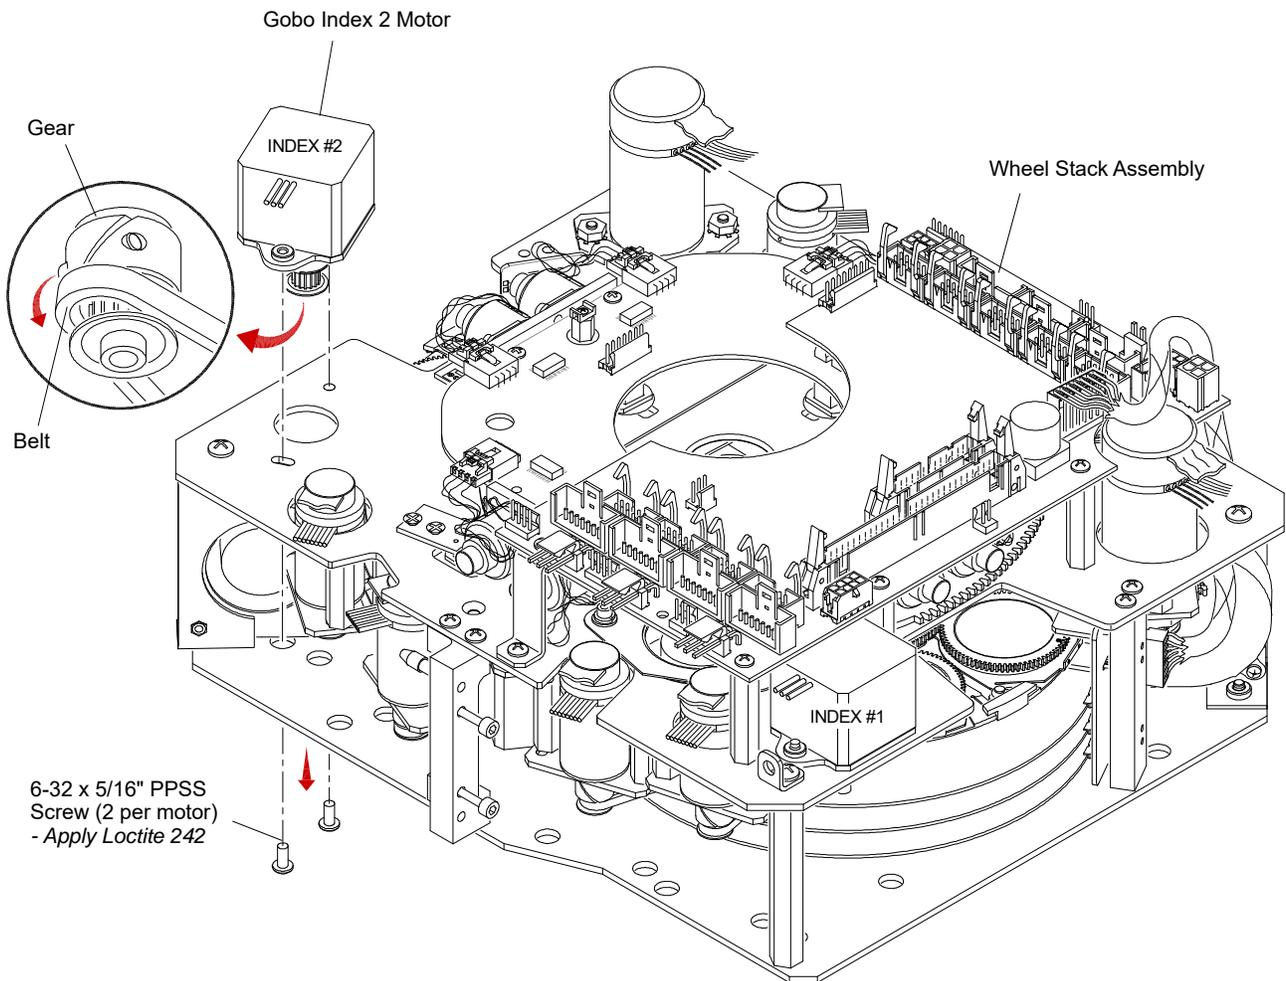

Figure 3-27: Removing Gobo Index 2 Motor
- Step 3. At Gobo Index 2 Motor, disconnect cable (**Figure 3-27**).